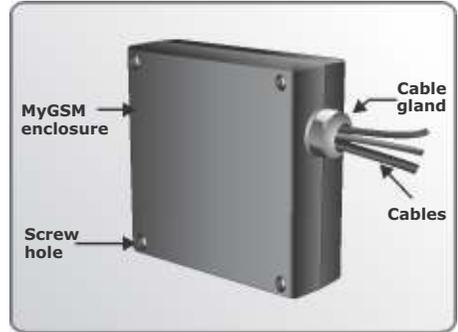

FIGURE 9.
12. Fit a cable gland into the cable entry hole and run the cables through the gland as shown in Figure 9.